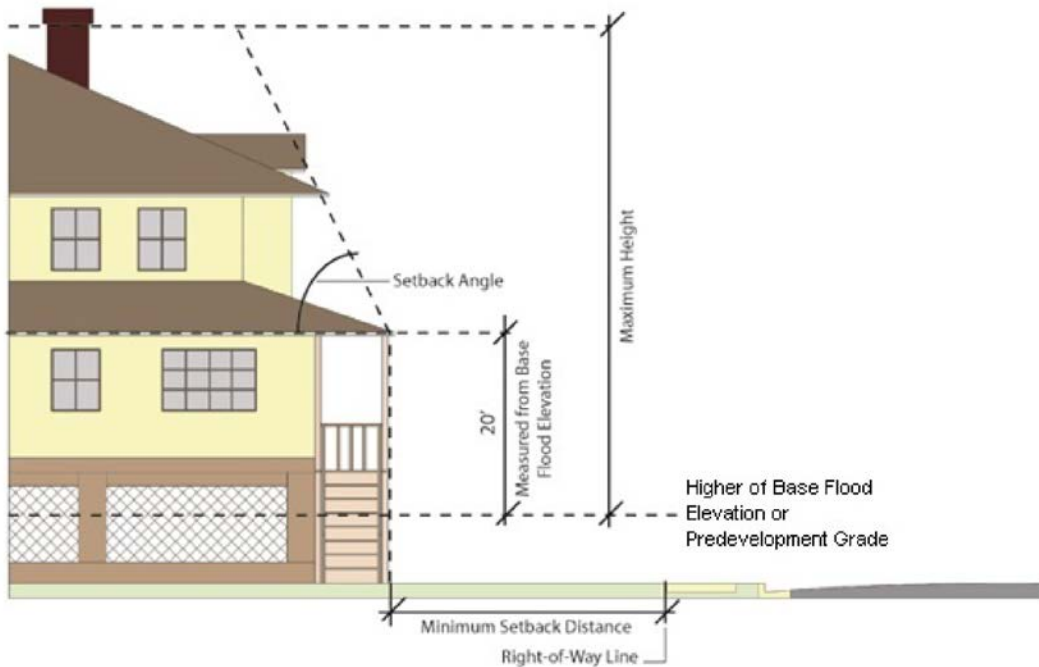

Figure 16-5-102.C, Street Setback Angle
Unless expressly exempted or modified in this subsection or for the CR, S, and IL Districts in Chapter 16-3: Zoning Districts, all portions of a **structure** shall be located to the interior of the vertical and angled planes established by the applicable minimum setback distance from an adjacent street and maximum setback angle shown in Table 16-5-102.C, Adjacent Street Setback Requirements, based on the proposed **use** and the classification of the **adjacent street** . (See Figure 16-5-102.C, Street Setback Angle.)
2. Measured within the upper inward quadrant of the intersection of a horizontal plane at a **height** of 20 feet above the **base flood elevation** or **pre-development grade** , whichever is higher, and a vertical plane extending upward at the minimum setback distance (see Figure 16-5-102.C, Street Setback Angle).
c. The reduction either (1) is required to compensate for some unusual aspect of the site or the proposed **development** , or (2) results in improved site conditions for a **development** with **nonconforming site features** (e.g., allows the extension of a wall or fence that screens an existing **outdoor storage** area);
1. Unless expressly exempted or modified in this subsection or for the CR and S Districts in Chapter 16-3: Zoning Districts, all portions of a **structure** shall be located to the interior of the vertical and angled planes established by the applicable minimum setback distance from **adjacent** properties and maximum setback angle shown in Table 16-5-102.D, Adjacent Use Setback Requirements, based on the proposed **use** and the existing **use** of the **adjacent** property (or zoning of a vacant **adjacent** property). (See Figure 16-5-102.D, Use Setback Angle.)
2. Measured within the upper inward quadrant of the intersection of a horizontal plane at a **height** of 20 feet above the **base flood elevation** or **pre-development grade** , whichever is higher, and a vertical plane extending upward at the minimum setback distance (see Figure16-5-102.D, Use Setback Angle).
- c. The reduction either (1) is required to compensate for some unusual aspect of the site or the proposed **development** , or (2) results in improved site conditions for a **development** with **nonconforming site features** (e.g., allows the extension of a wall or fence that screens an existing **outdoor storage** area);